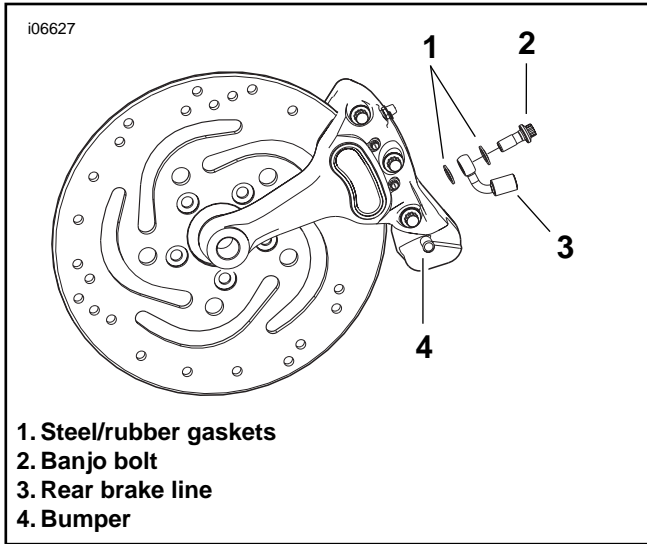

Figure 5. Rear Brake Caliper Removal
1. See Figure 5. Apply isopropyl alcohol to the rubber bumper (4) on the brake caliper to ease removal.
3. See Figure 5. Remove the banjo bolt (2) fastening the rear brake line (3) to the stock rear brake caliper. Save the banjo bolt for brake caliper installation and discard the steel/rubber gaskets (1).